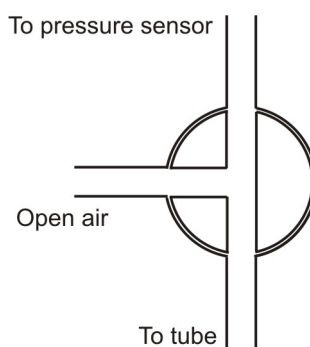

Figure 3: Three way valve – Position A
- Turn the three way valves to enable free air flow from the surroundings (Position A – see figure 3). The readings should indicate now the atmospheric pressure
1. Reset the apparatus: turn the three way valves to position A, and then return to position B (see figures 3 and 4). The pressure in the tubes should now equal the atmospheric pressure